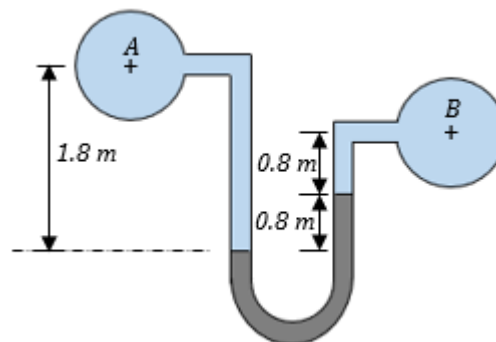

Figure 8
14. A differential manometer containing mercury was used to measure the difference of pressure pipes containing water as shown in figure 8. Find the difference of pressure in the pipes, if the manometer reading is 0.8 m.